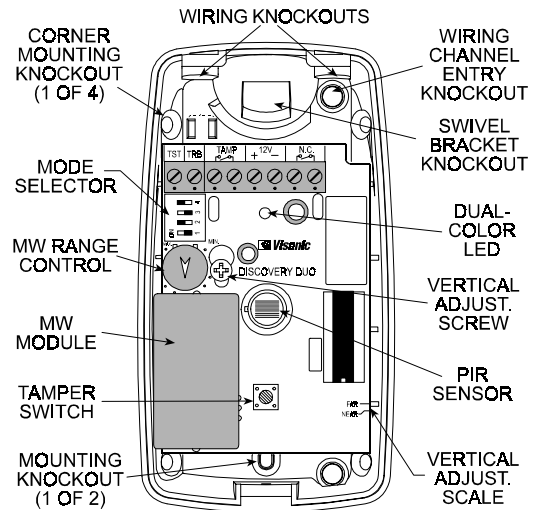
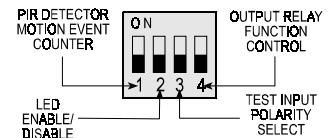
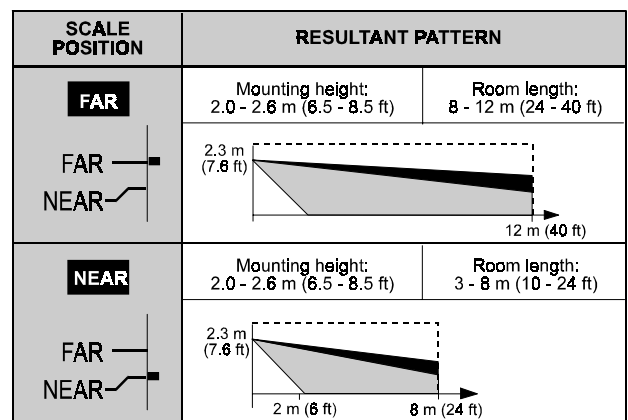

Figure 5. Inside View
Figure 12. DIP Switch Mode Selector
Figure 13. Vertical Adjustment
D. Refer to Figure 5 and punch out the mounting knockouts at the rear wall of the base (for surface mounting) or at the angled sides (for corner mounting).
- E. Punch out any one of the wiring knockouts shown in Figure 5.
2. With the detector tilted down, the side view patterns shown in Figure 13 do not apply. The actual coverage must be tested very carefully.
The DIP switch mode selector is mounted on the unit's PC board (see Figure 5). It controls four functions as demonstrated in Figure 12 and as detailed in Table 2.
The vertical adjustment scale for the PIR detector is located at the lower right edge of the PC board (refer to Figure 5). Two positions are available - FAR and NEAR. All new DISCOVERY DUO units are set to the FAR position. To adjust, loosen the vertical adjustment screw, slide the PC board along the vertical slot until the pointer indicates the required position on the scale (see Figure 13). When done, tighten the adjustment screw firmly.